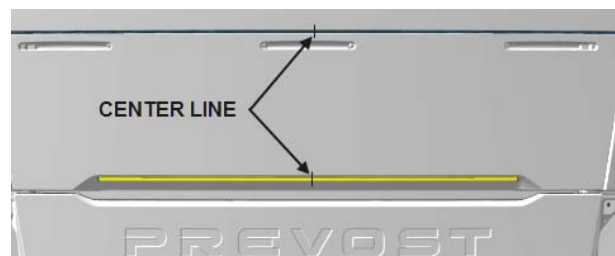

FIGURE 22
3. To ease the drip edge installation, draw reference lines indicating the center of the rear end to make sure that the drip edges will be installed perfectly centered (FIGURE 22). You may use the center high mounted stop light as reference to find the center of the rear end.